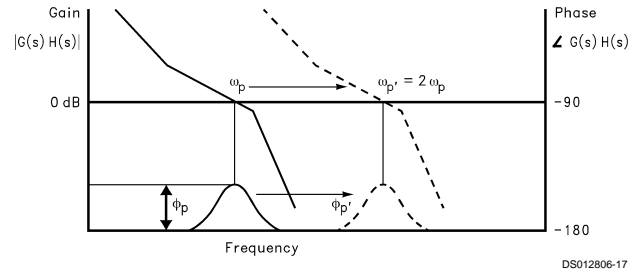

FIGURE 4. Open Loop Response Bode Plot
A plot of the magnitude and phase of $G(s)H(s)$ for a stable loop, is shown in *Figure 4* with a solid trace. The parameter ϕ_p shows the amount of phase margin that exists at the point the gain drops below zero (the cutoff frequency ω_p of the loop). In a critically damped system, the amount of phase margin would be approximately 45 degrees.
If we were now to redefine the cut off frequency, ω_p' , as double the frequency which gave us our original loop bandwidth, ω_p , the loop response time would be approximately halved. Because the filter attenuation at the comparison frequency also diminishes, the spurs would have increased by approximately 6 dB. In the proposed Fastlock scheme, the higher spur levels and wider loop filter conditions would exist only during the initial lock-on phase—just long enough to reap the benefits of locking faster. The objective would be to open up the loop bandwidth but not introduce any additional complications or compromises related to our original design criteria. We would ideally like to momentarily shift the curve of *Figure 4* over to a different cutoff frequency, illustrated by the dotted line, without affecting the relative open loop gain and phase relationships. To maintain the same gain/phase relationship at twice the original cutoff frequency, other terms in the gain and phase *Equation (4)* and *Equation (5)* will have to compensate by the corresponding “ $1/\omega$ ” or “ $1/\omega^2$ ” factor. Examination of equations *Equations (2)*, *(3)* and *Equation (5)* indicates the damping resistor variable $R2$ could be chosen to compensate the “ ω ” terms for the phase margin. This implies that another resistor of equal value to $R2$ will need to be switched in parallel with $R2$ during the initial lock period. We must also insure that the magnitude of the open loop gain, $H(s)G(s)$ is equal to zero at $\omega_p' = 2\omega_p$. K_{VCO} , K_ϕ , N , or the net product of these terms can be changed by a factor of 4, to counteract the ω^2 term present in the denominator of *Equation (2)* and *Equation (3)*. The K_ϕ term was chosen to complete the transformation because it can readily be switched